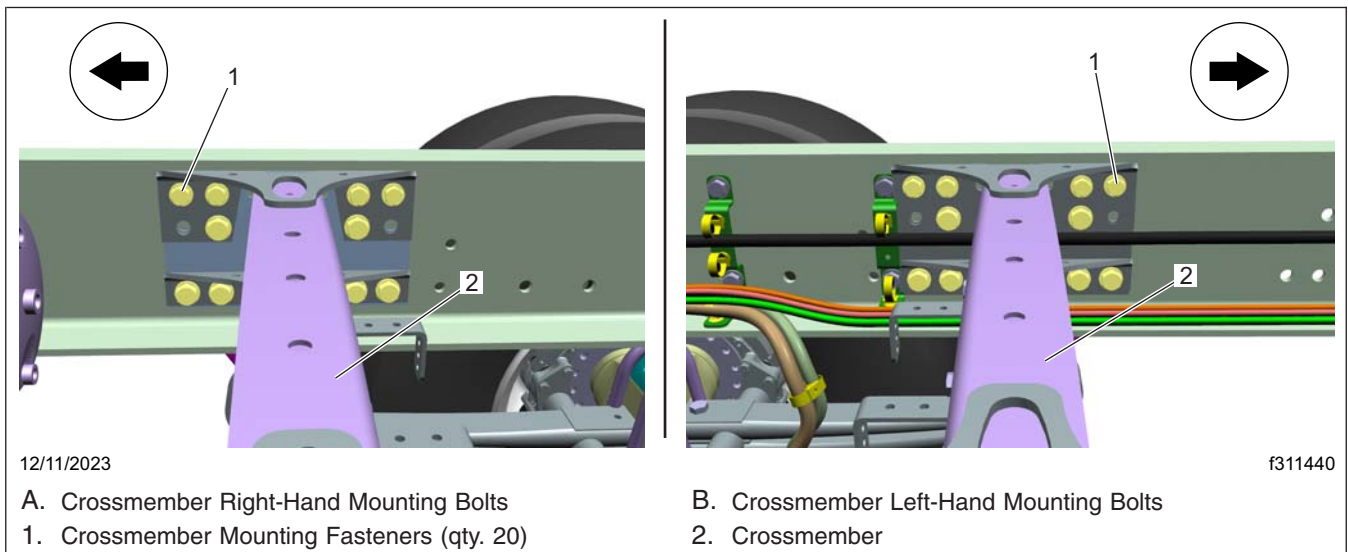

Fig. 7, Crossmember Mounting Fasteners
- Remove the fasteners that attach the crossmember to both the frame rails. See **Fig. 7**.